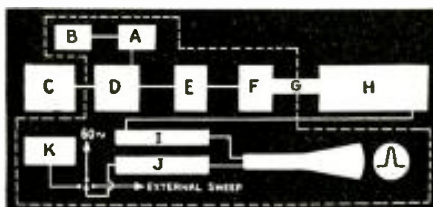

Fig. 1. Block diagram of the oscilloscope illustrated in Fig. A showing circuit sequence.
All the sections of the block diagram (Fig. 1) enclosed by the dotted lines are contained in the single attractive metal case shown in Fig. A. The controls have been divided into 4 groups—(1) Horizontal, (2) Vertical, (3) Linear Sweep, and (4) Alignment Capacities—so that the analyzer is easily operated and the necessary adjustments may be quickly made.
The fixed oscillator (A, in Fig. 1) which operates at a frequency of 800 kc., is frequency modulated  $\pm 15$  kc. by the "wobbler" (B), thus producing a bandwidth of 30 kc.